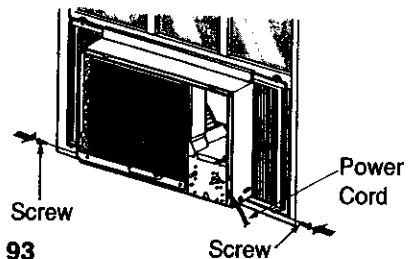

Figure 93
15. Slide the chassis into the cabinet. (See Figure 93)